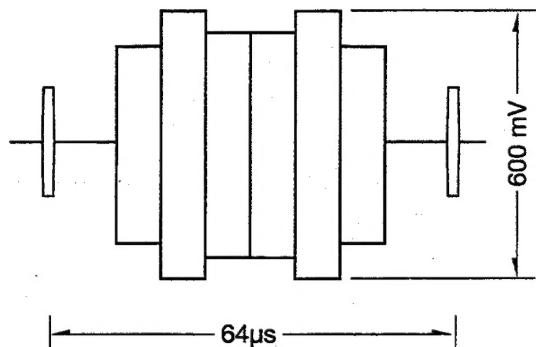

Fig. 9
4. Adjust T802 to the waveform max ( $\sim 800\text{mV p-p}$ ) and then advance, to achieve the waveform for about  $600\text{mVp-p}$ , as showed in Fig. 9.